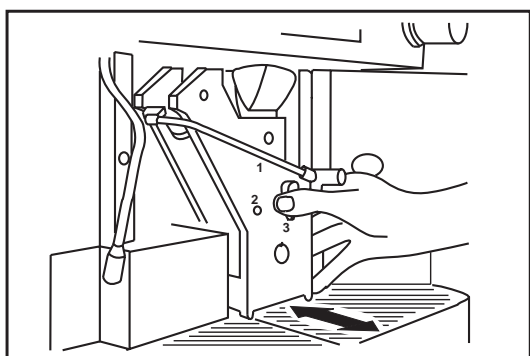

Fig. 13
- **Brew group:** Remove the coffee nozzle, open the stainless steel door and remove the brew group rotating the release mechanism to position 3 (fig.13). Clean the back panel with a damp sponge. Wash the brew group in warm water, dry it well, and reinstall it into the machine rotating the release mechanism to position 3. Pay attention that the reference arrows on the central shaft are well aligned (Align them by means of a special key when necessary). If the brew group is well inserted, the release mechanism should be in position 2.